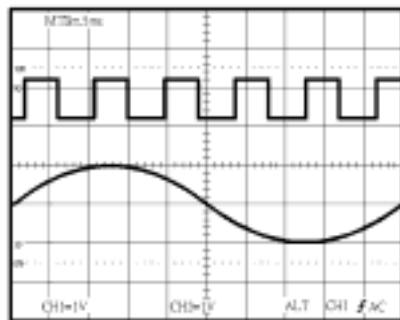
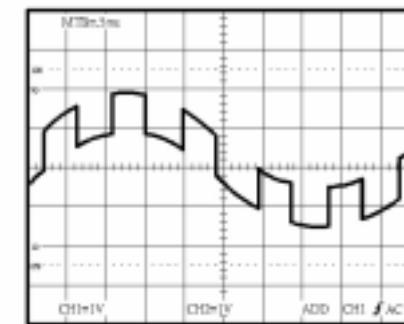

Figure 5-5 Both typical waveforms
Figure 5-6 Typical ADD waveform
- 1.Set the CH1 and CH2 on. The figure 5-5 below shows two synchronous waveforms in the both modes.
- 1.Set the ALT/CHOP/ADD button to ADD mode. The figure 5-6 below shows the sum of the waveforms from figure 5-5.